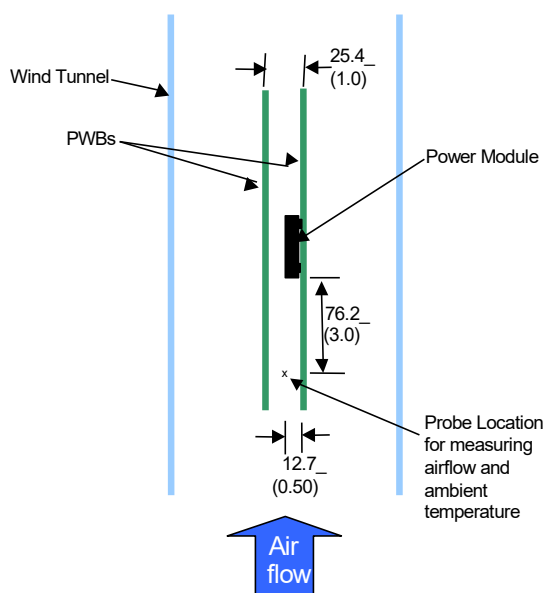
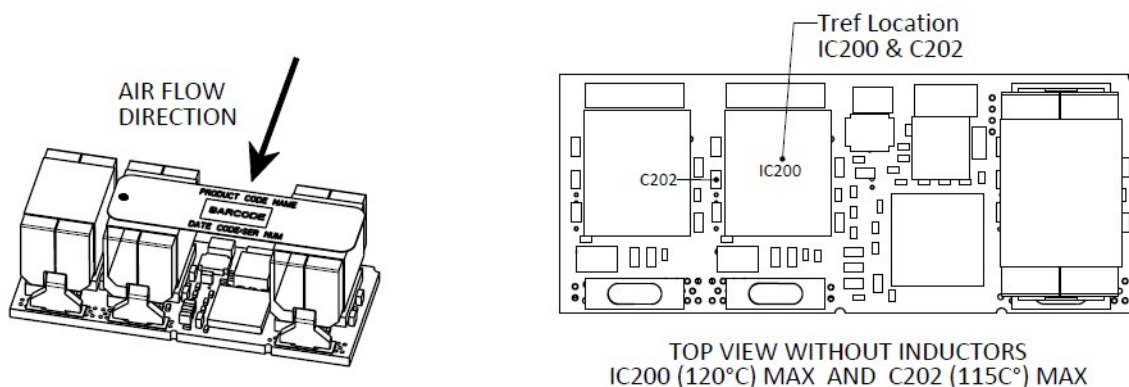

Figure 34. Thermal Test Setup.
Figure 35. Preferred airflow direction and the location of the thermal reference points
Power modules operate in a variety of thermal environments; however, sufficient cooling should always be provided to help ensure reliable operation. Considerations include ambient temperature, airflow, module power dissipation, and the need for increased reliability. A reduction in the operating temperature of the module will result in an increase in reliability. The thermal data presented here is based on physical measurements taken in a wind tunnel. The test set-up is shown in Figure 34. The preferred airflow direction for cooling the module and the thermal reference points, Tref used in the specifications are shown in Figure 35. For reliable operation the temperatures at these points should not exceed 120°C (IC300) and 115°C (C202). The output power of the module should not exceed the rated power of the module ($V_{o,set} \times I_{o,max}$). Please refer to the Application Note “Thermal Characterization Process for Open-Frame Board-Mounted Power Modules” for a detailed discussion of thermal aspects including maximum device temperatures. Increased airflow over the module enhances the heat transfer via convection. The thermal derating of figures 2, 8, 14 and 20 show the maximum output current that can be delivered by each module in the indicated orientation without exceeding the maximum Tref temperature versus local ambient temperature (TA) for several air flow conditions. The thermal derating curves were generated using a 12 layer evaluation board with 3oz copper in inner layers and 2 oz in outer layers.